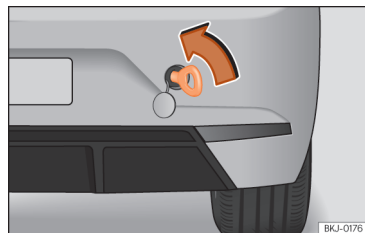

Fig. 157 Right side of the rear bumper: towline anchorage screwed in.
- Screw the towing eye in the housing by turning it to the maximum **anticlockwise** »» Fig. 157 , »» page 246. Use a suitable object that can completely and securely tighten the towing eye in its housing.